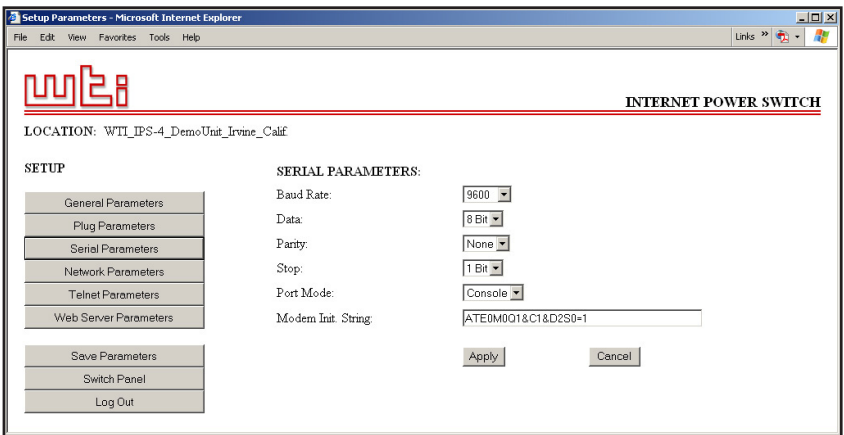
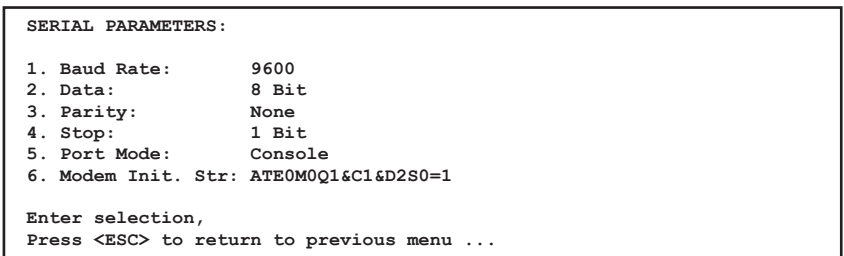

Figure 5.5: Serial Parameters Menu - Web Browser Interface
Figure 5.6: Serial Parameters Menu - Text Interface
- **Web Browser Interface:** Click the "Setup" button to access the Setup Menus, and then click the "Serial Parameters" button. The Serial Parameters Menu will be displayed as shown in Figure 5.5.
- **Text Interface:** Type `/C` and press `[Enter]`. The Serial Parameters Menu will be displayed as shown in Figure 5.6.
As shown in Figure 5.5 and Figure 5.6, the Serial Parameters Menus offer the following options: